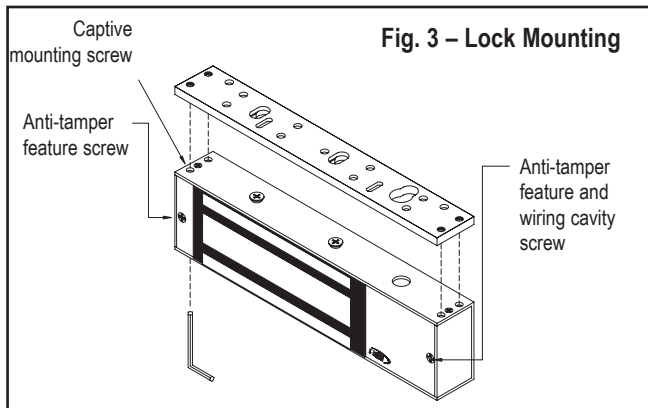

**Fig. 2 – Power Connections**
**To Ensure Instant Release** - All switching devices must be wired in between the DC power source and the positive terminal of the lock in Fig 2.
Lock is not releasing immediately upon removal of power	Ensure that switching devices are interrupting the DC power and not the AC power supply voltage. Ensure rubber washer on armature plate mounting bolt has not been removed or damaged. Check that switching device interrupts the positive wire and not the negative wire (See Fig. 2) Remove any Diodes or other suppression devices that may be installed.